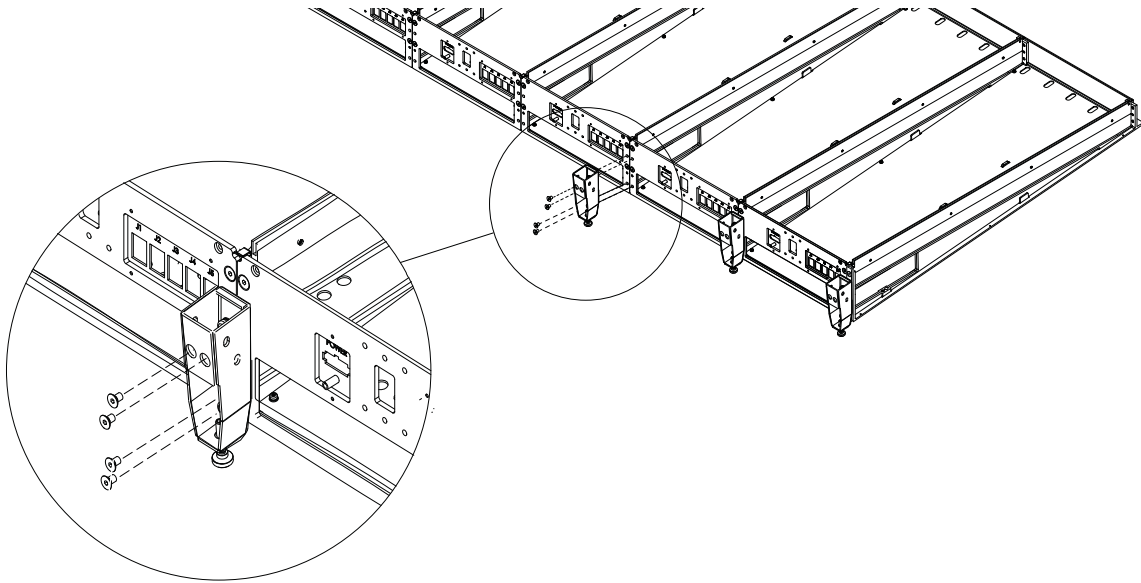

Figure 23. Attaching a Back Foot to two adjacent Back Tie Plates
- All other Back Feet are mounted to adjacent Back Tie Plates as shown in Figure 23.